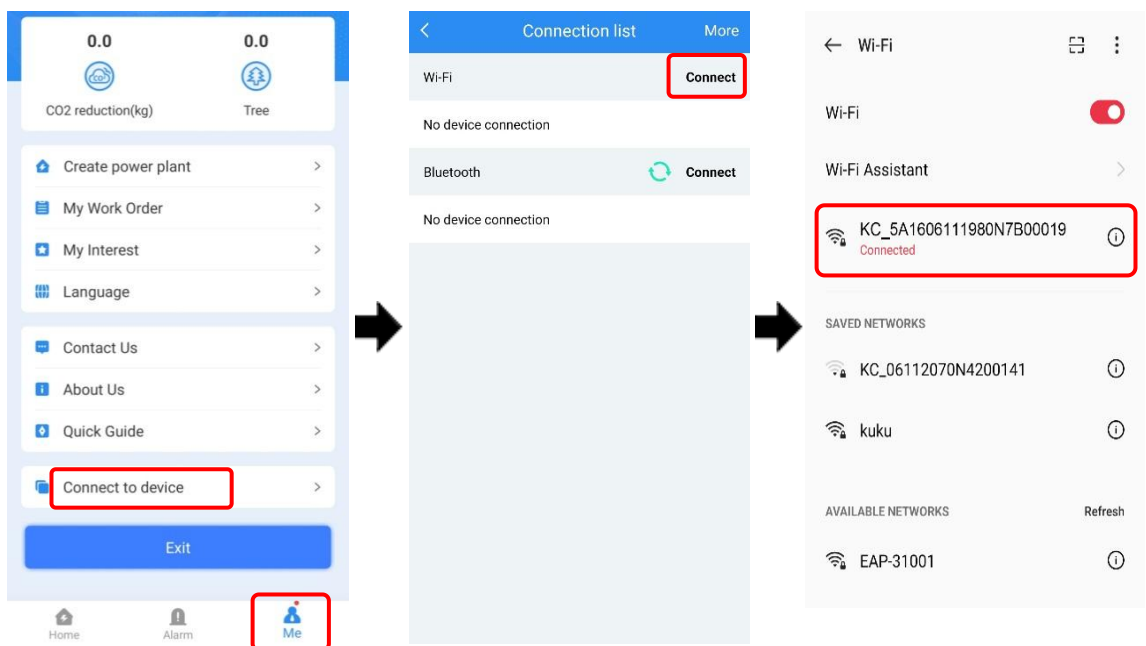

Figure4-6 Connect device
Step 8 Click "Me" icon in the main page, then click "Connect to device", and then click "Connect" at the top of the page, it will show the Wi-Fi list. Select the Wi-Fi whose name is the same as that of WIFI module, and then enter the default password: admin12345678, the WIFI module will be connected, as shown in Figure4-6.